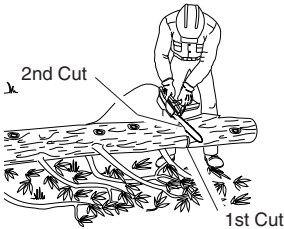

Figure 15 - Bucking Log When Log Is Supported On One End
1. Make first cut on underside of log (see Figure 15). Use top of guide bar to make this cut. Cut 1/3 through diameter of log. This cut will keep section from splintering when cut.